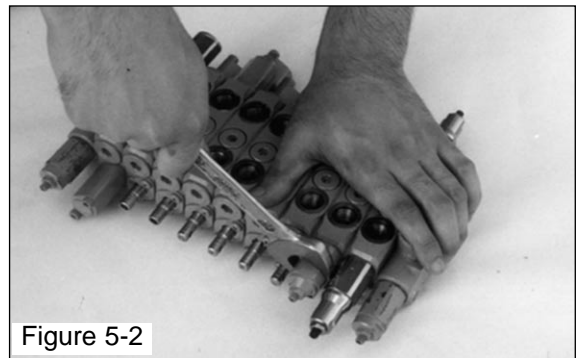

Figure 5-2
2. Loosen and remove plugs from cylinder and tank ports. See Figure 5-2.